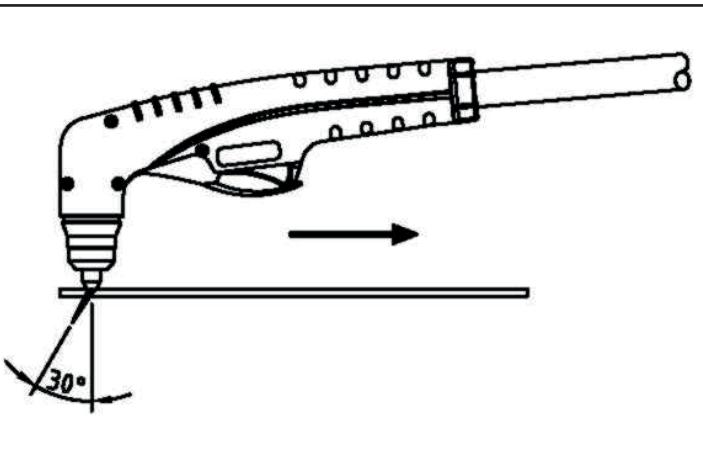

Figure 17
- Once on, the main arc remains on as long as the control switch is held down, unless the torch is withdrawn from the work or torch motion is too slow. Keep moving while cutting. Cut at a steady speed without pausing. Maintain the cutting speed so that the arc lag is about 30° behind the travel direction. Fig. 17. If the cutting arc is interrupted, and the torch trigger is still pressed, the pilot arc comes back on automatically for 3 seconds. To shut off the torch simply release the control switch. When the switch is released a post-flow will occur. If the torch trigger is pressed during the post-flow, the pilot arc will restart.